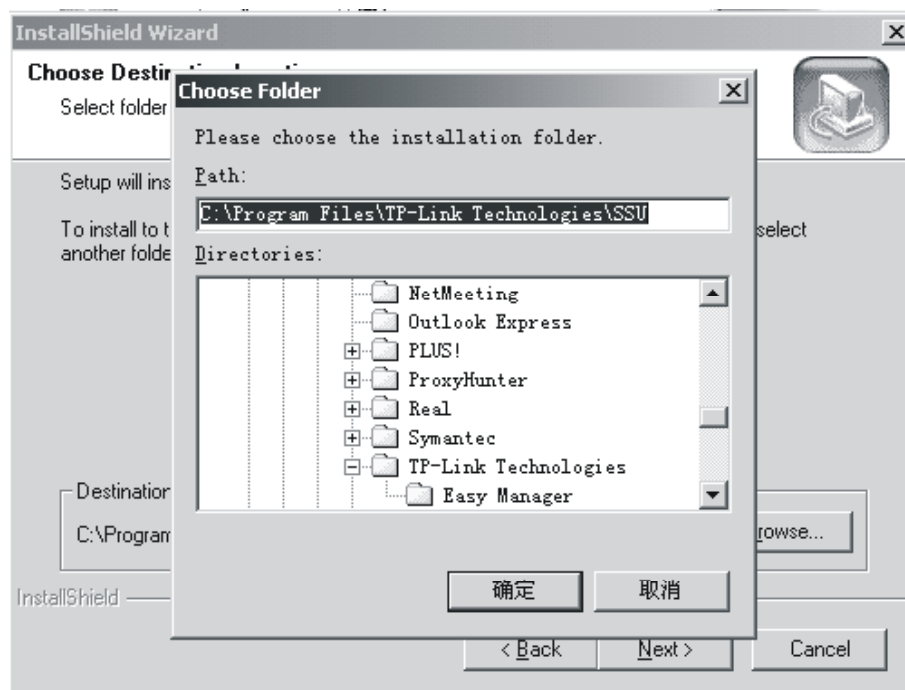

Figure 5-1
- 2) Installation steps: Run the **setup.exe**, and following the wizard to finish the setup. If you want to change the default path, click **Browse**, Input or choose the path you want, click **OK** and then **next** to finish the setup. As figure 5-1.